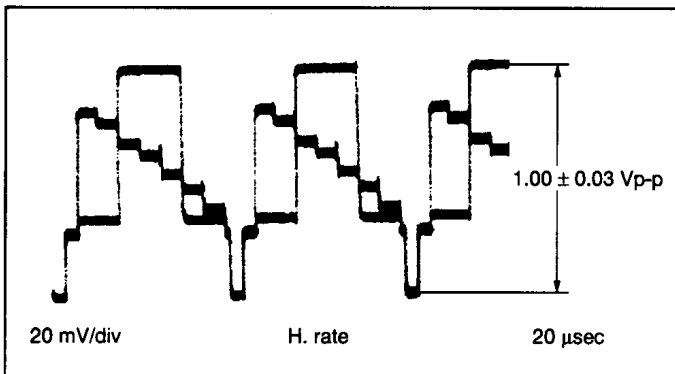

Fig. 3-3-3 EE Y level
- (4) Adjust the CH "▲" or "▼" buttons for  $1.00 \pm 0.03$  Vp-p. (See Fig. 3-3-3.)
- (5) Set the normal VCR mode by pressing the "K" button of the presetting unit again so adjustment data is memorized.